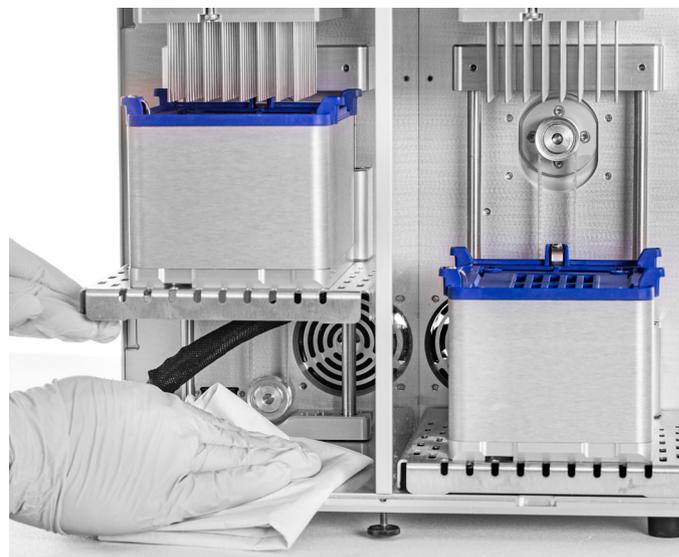

Figure 37. Lift the plate heater and clean under the lift.
5. Use one hand to lift the plate heaters and clean underneath. See Figure 37.